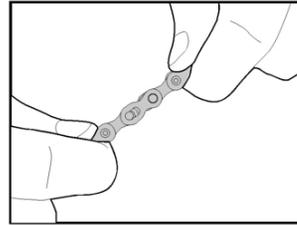

Fig.3
3. To snap Drive Link in locked position, rotate crank until Drive Link is above the chainstay. Hold the rear brake and firmly push the crank forward. Make sure Drive Link snaps in to locked position before use. (Fig.3)